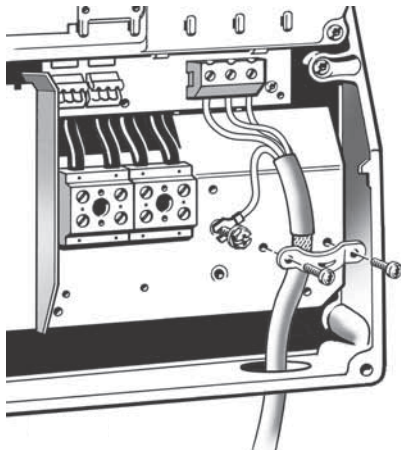

Fig. 15 Motor connection, B1 and B2
1. Connect the earth conductor to terminal 99 (PE). See fig. 15.
2. Connect the motor conductors to terminals 96 (U), 97 (V), 98 (W).